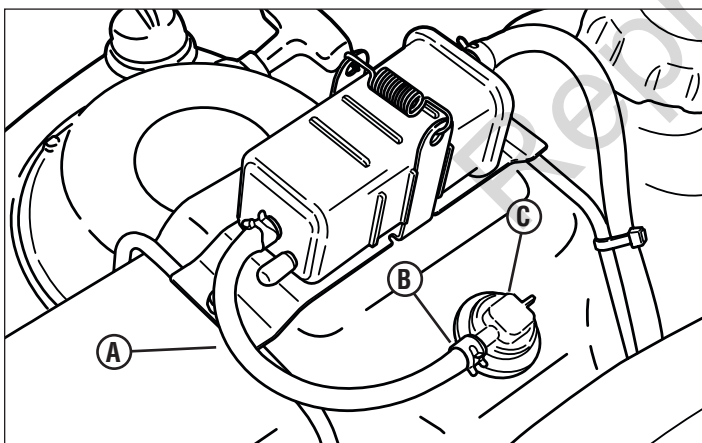

Figure 7
- Install the hose clamp (B, Figure 7) approx. 1" onto the end of the vent hose (A). Connect the vent hose to the vent on the top front section of the fuel tank (C), then move the hose clamp toward the end of the hose.